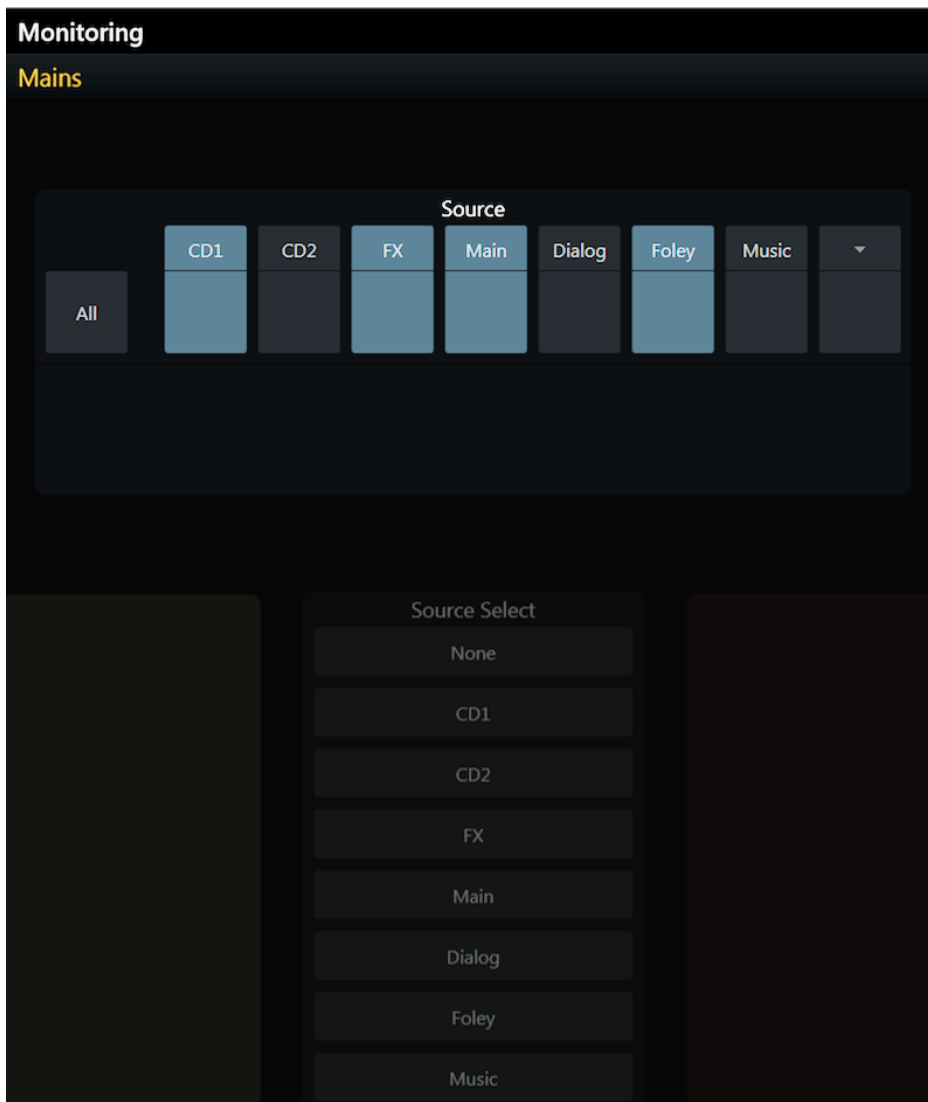

Figure 31. Monitoring screen with Sources on and off
- Blue sources are on, dimmed sources are off. In Figure 31 CD1, FX, Main, and Foley are on.